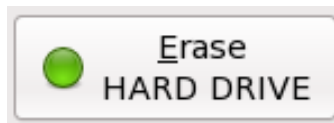

Figure 2: Erase Hard Drive
4.5 To begin the erasure process on the selected drive, press the button at the bottom of the main user interface screen labeled “Erase Hard Drive” See Figure 2.